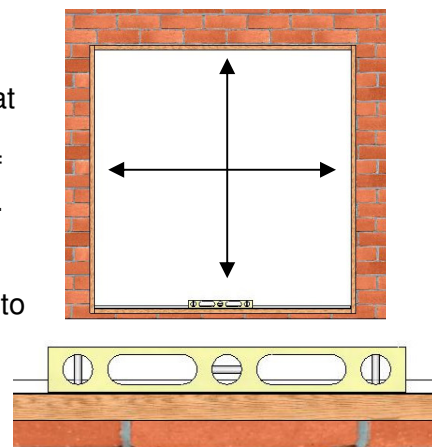

Figure 2:
- Place sillpan into the opening and determine any leveling that must be done prior to installation (Figure 2).